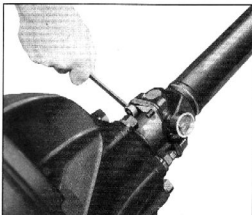

Fig. 21—Removing Rear Universal Joint "U" Bolts
2. Split the rear universal joint by removing the two trunnion bearing "U" bolts from the rear yoke as shown in Fig. 21. The bearings can be left on the trunnion and held in place with tape. This will prevent dirt getting into the bearings as well as saving considerable time in reassembly. Sufficient clearance can be obtained for dropping the propeller shaft by sliding the entire assembly forward on the splines of the propeller shaft.